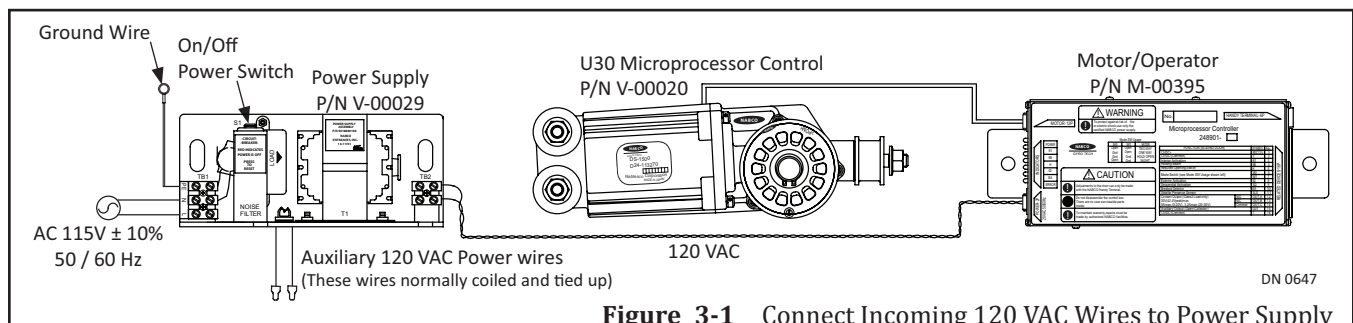

Figure 3-1 Connect Incoming 120 VAC Wires to Power Supply
5. Please see Figure 3-1, to follow steps on how to connect Incoming 120 VAC wires to Power Supply.